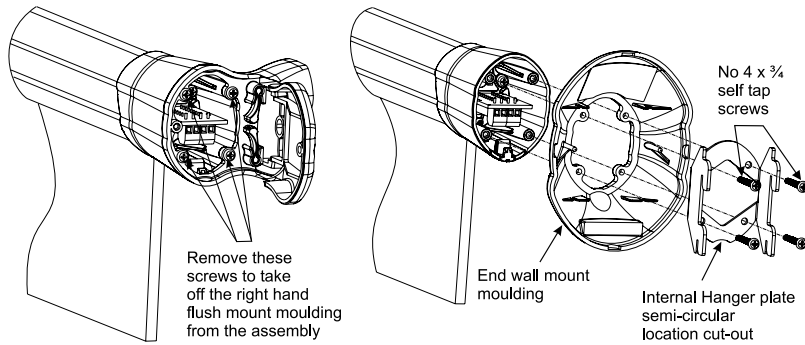

Fig 12: Removing the Right Hand Flush Wall Moulding Fig 13: Right Hand Conversion Re-assembly
- 5) Remove the flush wall mount moulding from the end moulding by unscrewing the 4 screws visible under the cover See Fig 12.